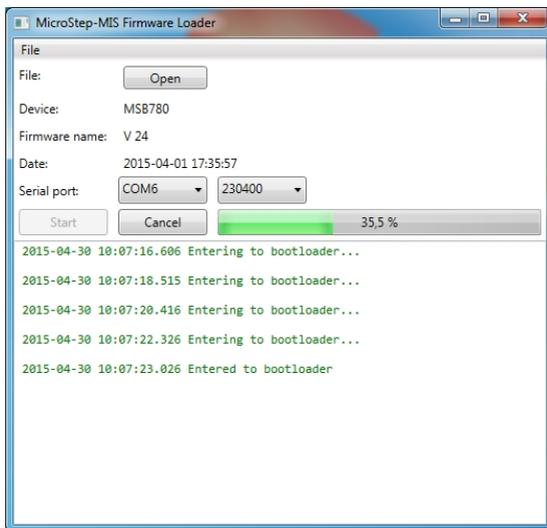

Figure 12: The transferring process
6. Click Start button to start the upload. Process of uploading is displayed in Figure 12.